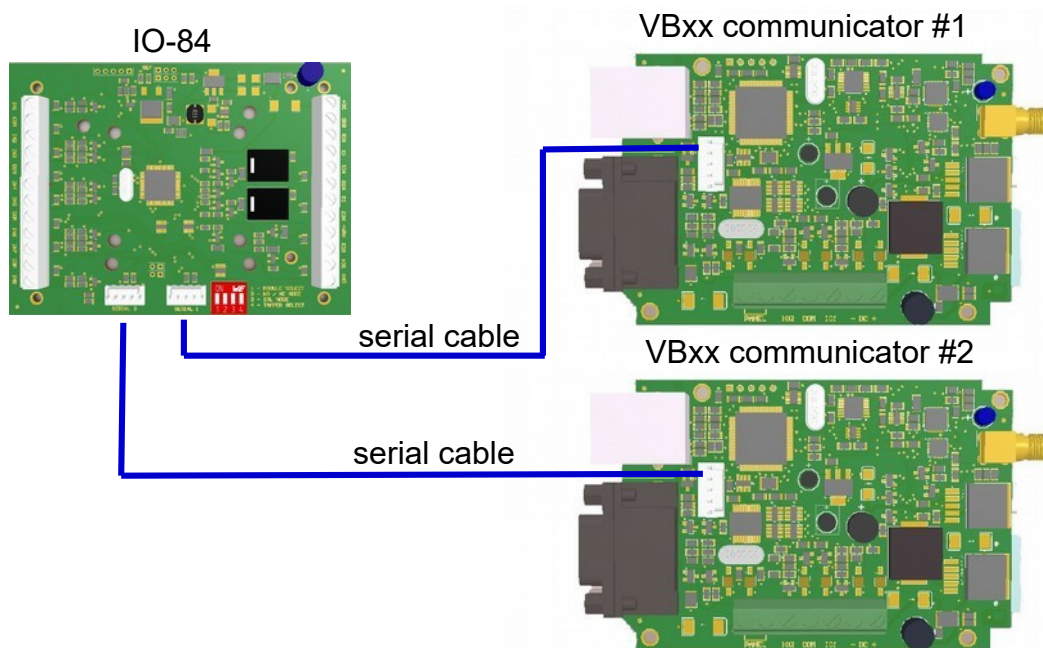

Figure 2. : Dual operating mode – two communicators, one common IO-84 module
When using the IO-84 I/O Expansion modul in „Dual“ mode, it can support two VB series communicators at the same time. In dual operating mode, the (7) serial port jumpers must be left open. This ensures, that the primary and secondary serial ports are independent, and it makes possible to connect two different communicators to them.The schematic of the dual operating mode can be seen on Figure 2. on page 9.